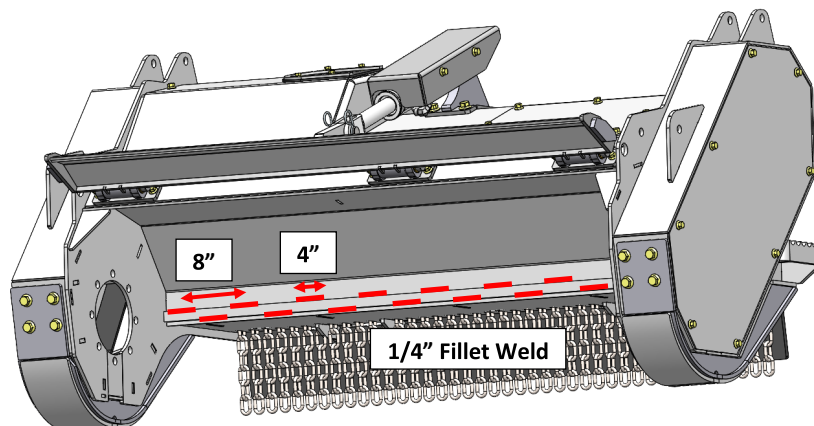

Figure 32
7. Follow the welding pattern illustrated in Figure 32.